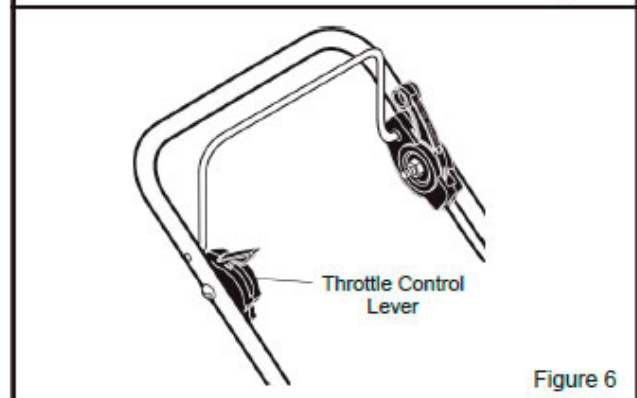

Figure 6
3. To stop the engine, pull the lever all the way back to the STOP position (see Figure 6).